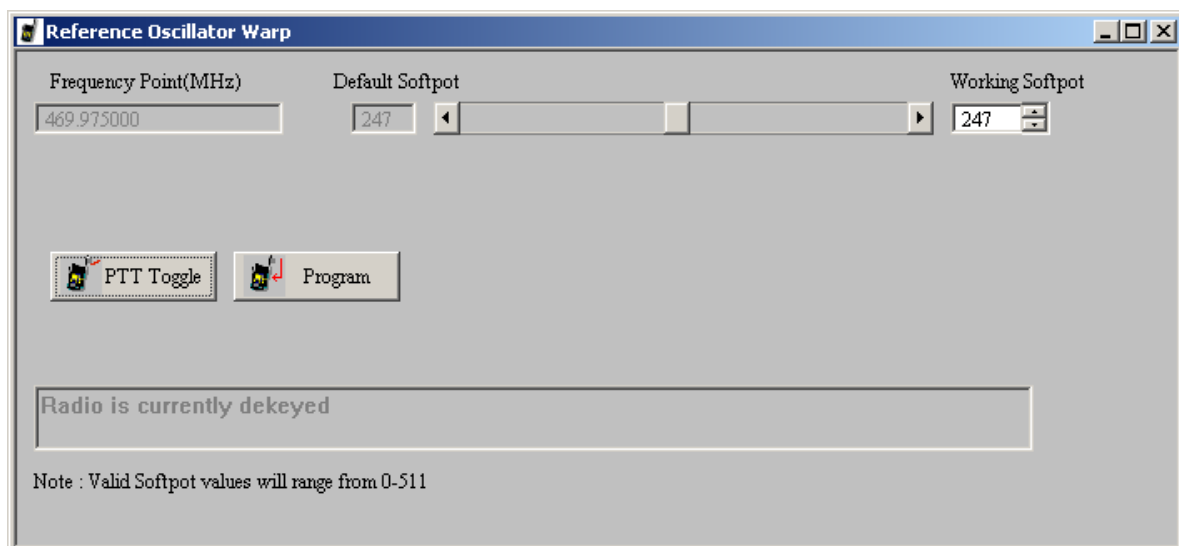

Figure 4-3. Reference Oscillator Warp Window
1. Under **Tx Align** menu, select **Reference Oscillator Warp** (Figure 4-3).